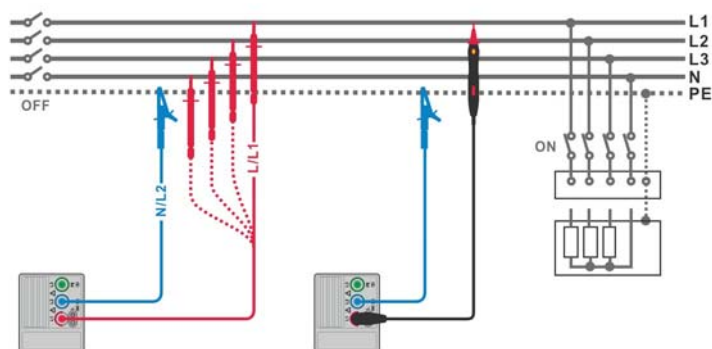

Figure 5.6: Connection of test leads and TL180 test probe
- ❑ **Connect** the test leads to the instrument and then to the installation wiring to be tested (see Figure 5.6).